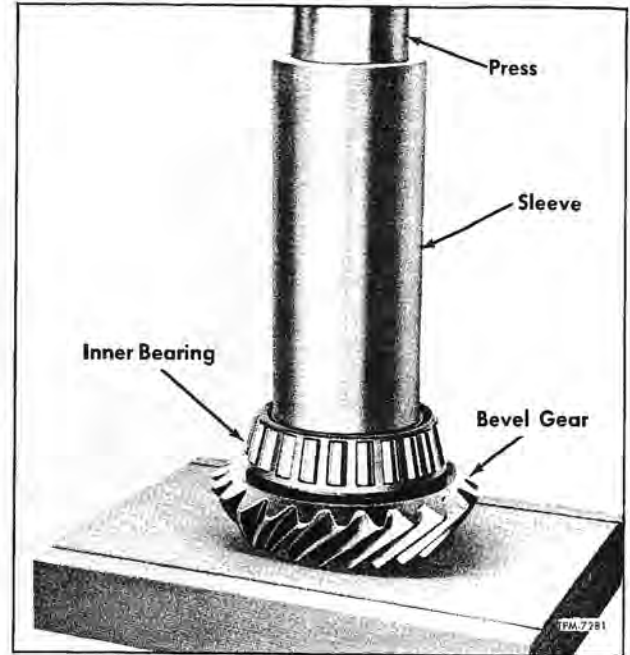
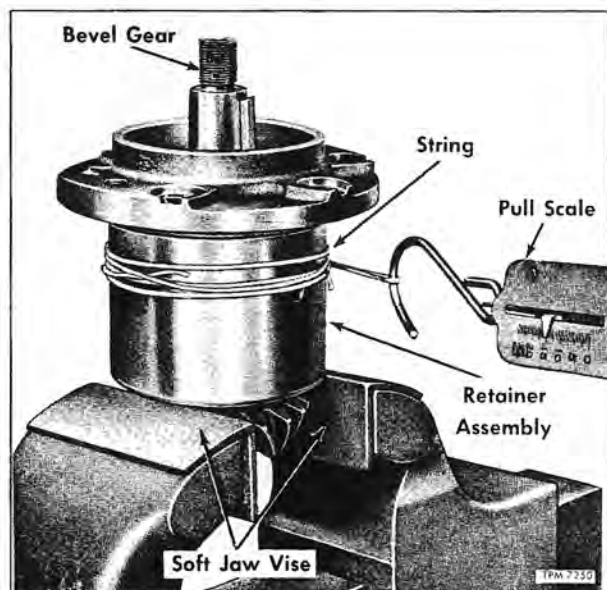

Figure 112—Installing Bevel Gear Inner Bearing
Figure 113—Checking Bevel Gear Adjustment
1. If bevel gear inner bearing cone (12) was removed from bevel gear at disassembly, install inner bearing cone using a suitable sleeve and arbor press. Support bevel gear on soft metal or hardwood block and seat bearing race firmly at shoulder (fig. 112).
2. Install bearing adjustment spacer (10) on shaft of bevel gear.
3. Inspect counterbores in bearing retainer (4) which must be clean.
6. Install outer bearing cone (8), adjustment nut lock (6) and adjustment nut (3). NOTE: Care should be taken to prevent nut lock from turning with adjustment nut.
- a. Wrap a heavy cord around bearing retainer and attach a spring scale as shown in figure 113.
- b. Use a deep spanner wrench to tighten bearing adjustment nut (3) to 175 to 200 foot-pounds torque. Rotate bearing retainer by pulling on spring scale. correct bearing preload will require a 4-1/2 to 9-1/2 lbs. pull to rotate retainer. If necessary, replace bearing adjustment spacer (10) with another size.
- c. When correct adjustment is obtained, lock adjustment nut by bending up tab of adjustment nut lock (6).